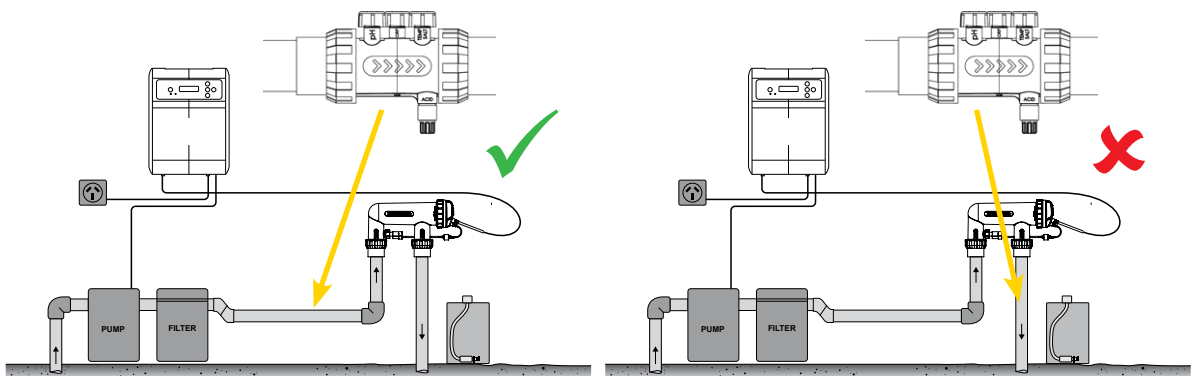

Figure 4.8
- The housing is installed up-flow of the HSMC cell housing (refer Figure 4.8)